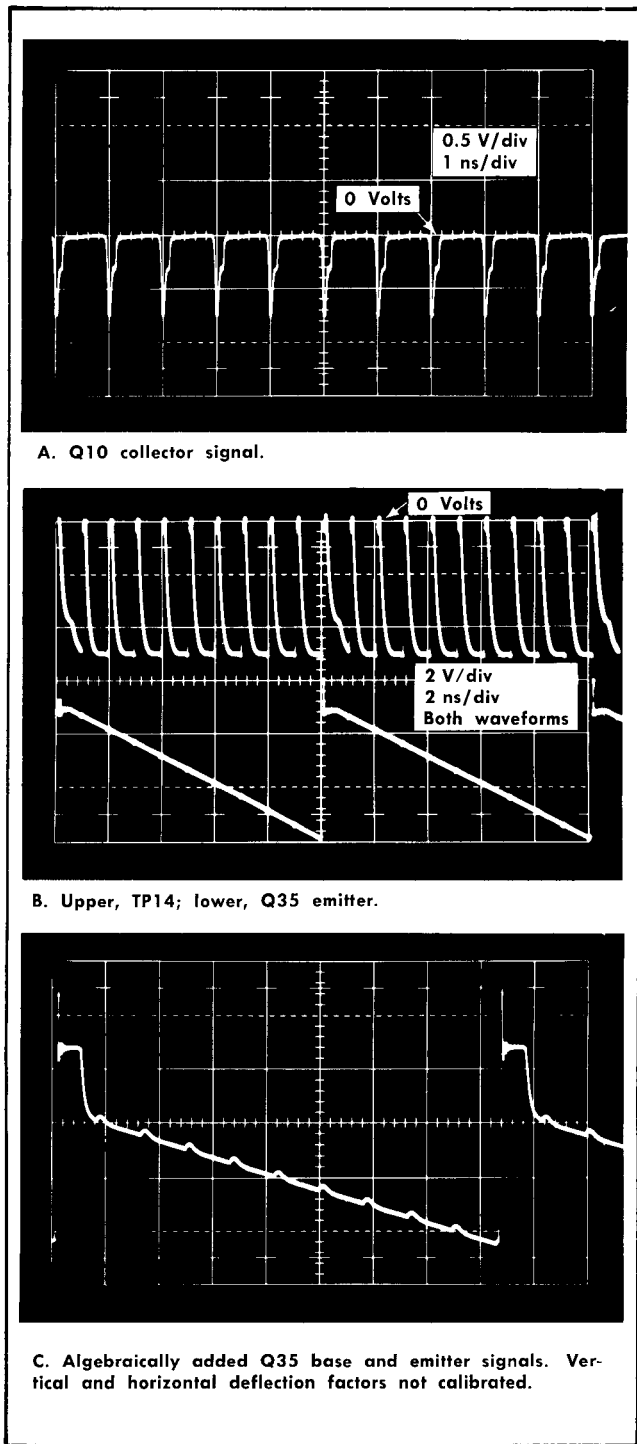

Fig. 3-2. Clock and 100 kHz Scaler signals.
**Oscillator.** The 1 MHz Clock is a modified Colpitts crystal controlled oscillator with the crystal operating in a parallel mode between Q10 base and ground. Q10 static current value is limited by R13. Its value is determined by the voltage at Q10 base, set by the divider R10/R11. C13 provides positive feedback to sustain oscillations that begin when power is applied. Q10 current pulses produce negative-going voltage pulses of approximately  $-0.8$  volt across Q14 base-emitter junction. R14 assures that Q14 is cut off when Q10 is not conducting. Q10 is the oscillator; Q14 is an amplifier/inverter that provides positive pulses to the 100 kHz Scaler. Both Q10 and Q14 operate in a non-linear mode so that pulses from Q14 collector are definitely not sinusoidal (see Fig. 3-2).
Test Point TP14 is a convenient test oscilloscope signal source for checking the Clock output pulses. Since Q14 is driven alternately from cut-off to saturation, the signal at TP14 swings from about  $-5.2$  volts to essentially ground. Fig. 3-2 shows the signals at both the oscillator collector and at the non-linear amplifier collector, TP14. The Clock pulses combine (at Q35 base) with a negative going ramp (at Q35 emitter) in the 100 kHz Scaler described below.